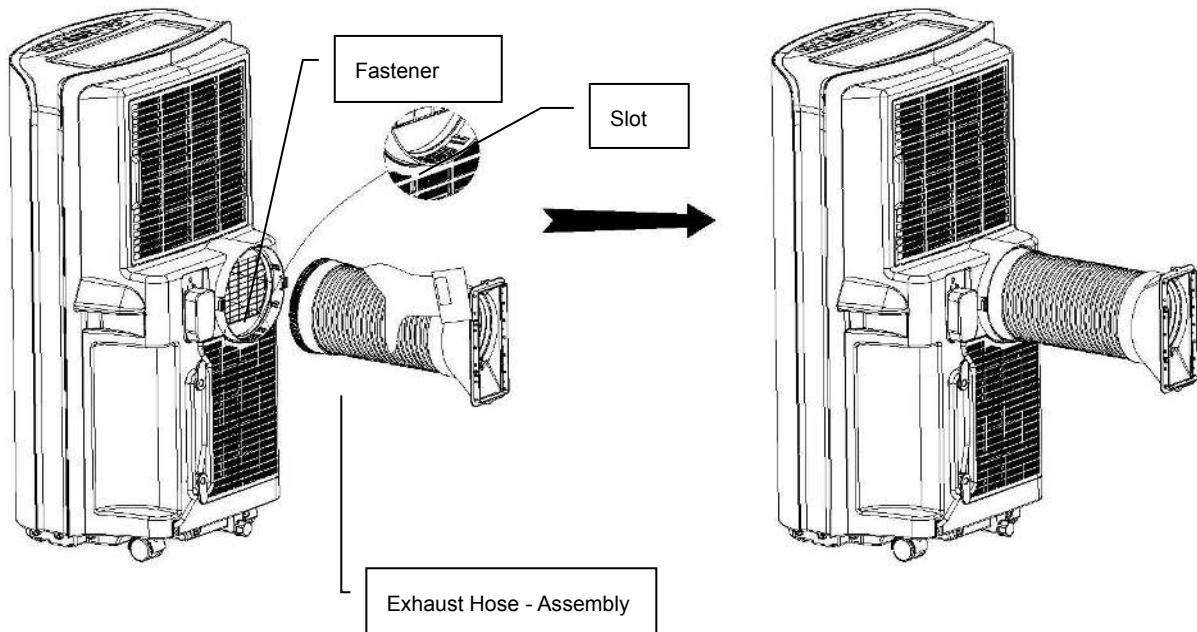

Figure 2
1.2 Installation of exhaust hose assembly to main unit. (As Figure 2)
Put front end of exhaust hose assembly onto jugged position of exhaust air outlet at back panel, fasteners will lock the exhaust hose assembly. (As Figure 2)